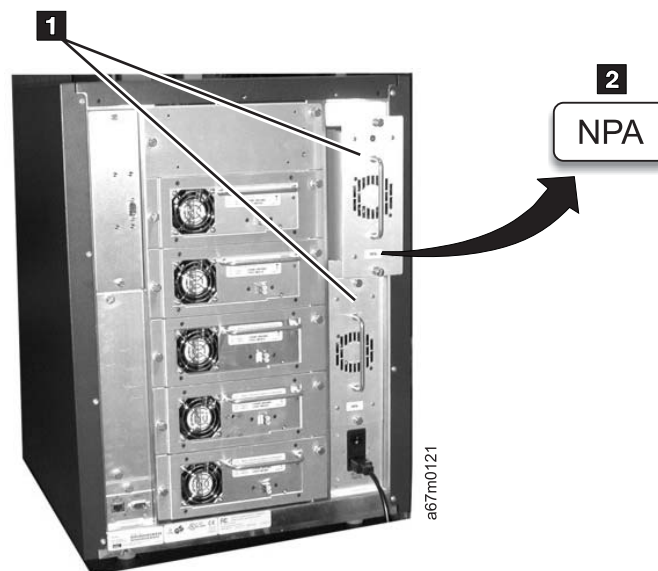

Figure 8-44. Comparing dc Power Supplies
1. From the rear of the library, locate the one or two dc power supplies that are currently installed in the library (**1** in Figure 8-44).